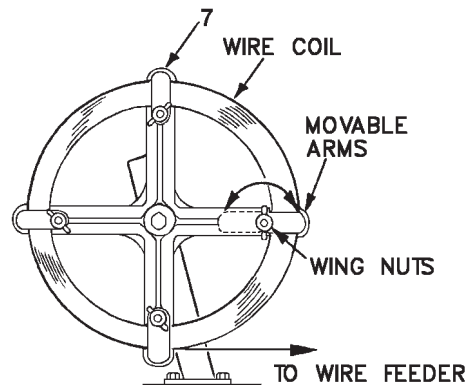

Figure 5
d. Loosen the wing nuts holding the movable arms. Rotate the arms inward towards the center of the reel (7). Place the coiled wire on the reel so the wire feeds from the bottom of the coil to the wire feeder. See Figure 5.